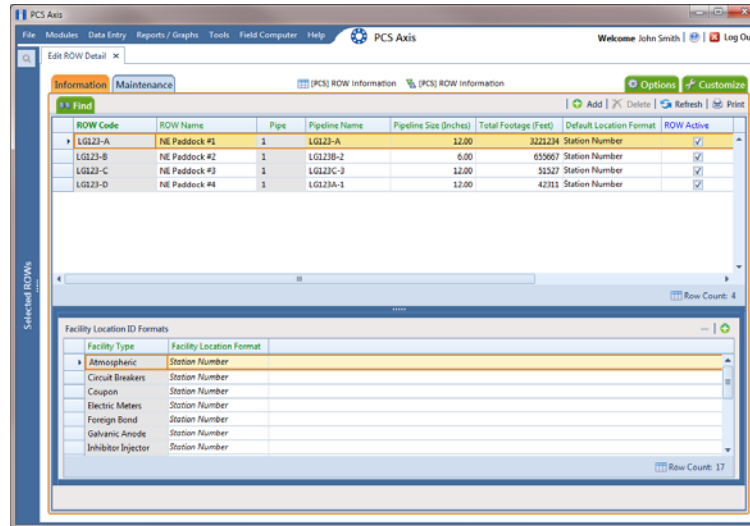

Figure 3-21. Edit ROW Detail
- 2 Click **Data Entry > Edit ROW Detail** to open the *Edit ROW Detail* window. If you want to collapse the *Selected ROWs* panel to view more of the *Edit ROW Detail* grid, click **Selected ROWs**. To expand the panel, click **Selected ROWs** again (Figure 3-21, page 109).
- 2 Click **Data Entry** > **Edit ROW Detail** to open the *Edit ROW Detail* window (Figure 3-21, page 109).
- 2 Click **Data Entry > Edit ROW Detail** to open the *Edit ROW Detail* window (Figure 3-21, page 109).